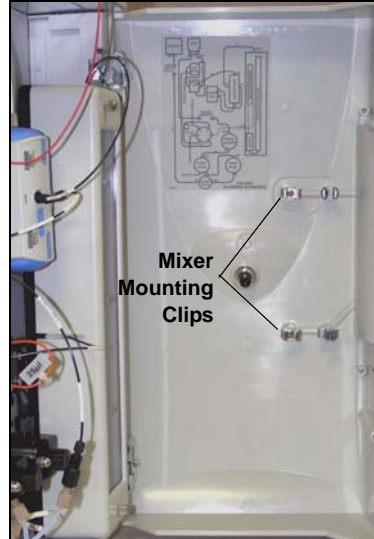

Figure 94. Location of Mounting Clips for the EGC CO₃ Mixer
2. Install the larger diameter mounting clips (P/N 063642) (see Figure 94).